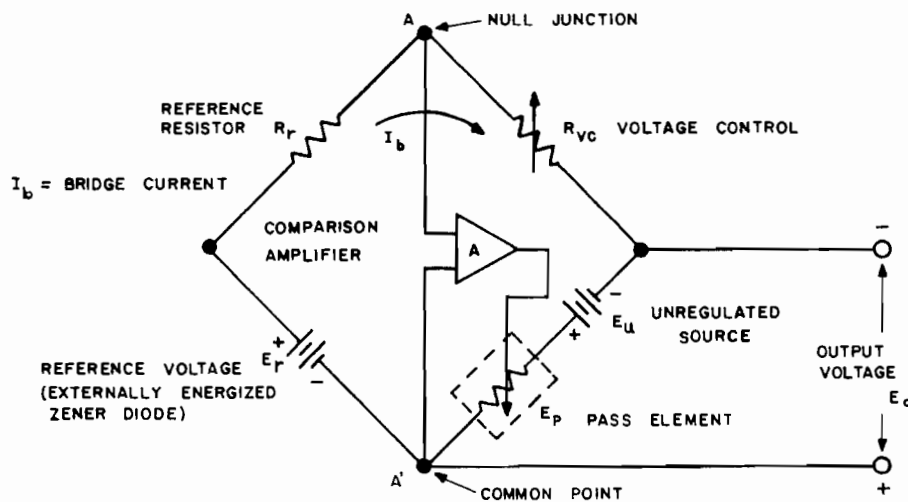

FIG. 3-4 KEPCO POWER SUPPLY AND COMPARISON BRIDGE CIRCUIT.
- 3-8 GENERAL. A few general remarks may be in order to familiarize the user of this equipment with the terminology and basic equations pertaining to remote programming of the Kepco PAT Power Supplies. Electrically, the power supply consists of the unregulated d-c source (E_u), the pass element (E_p), the d-c error amplifier (A), and a comparison circuit which resembles a 4-arm electrical bridge. (Refer to FIG. 3-4.) The elements of the bridge are arranged to produce a virtual zero at the amplifier input when the bridge circuit is at balance ($V_{AA'} = 0$). Any tendency for the output voltage to change in relation to the reference voltage (E_r) creates an error signal which, by means of negative feedback and the amplifier, tends to correct the output voltage towards restoration of bridge balance.